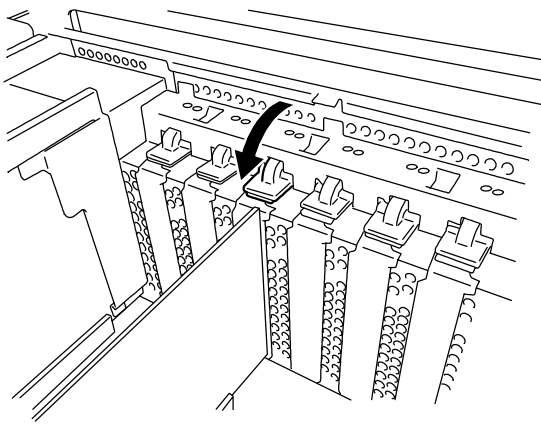

Figure 4-41. Installing an Option Board
11. The retaining bracket fits into the space that was occupied by the expansion slot cover. Secure the expansion board by pushing down on the cover tab, see Figure 4-41.
7. Install an expansion slot cover over the vacant slot. Secure the expansion slot cover by pushing down on the cover tab, see Figure 4-41.